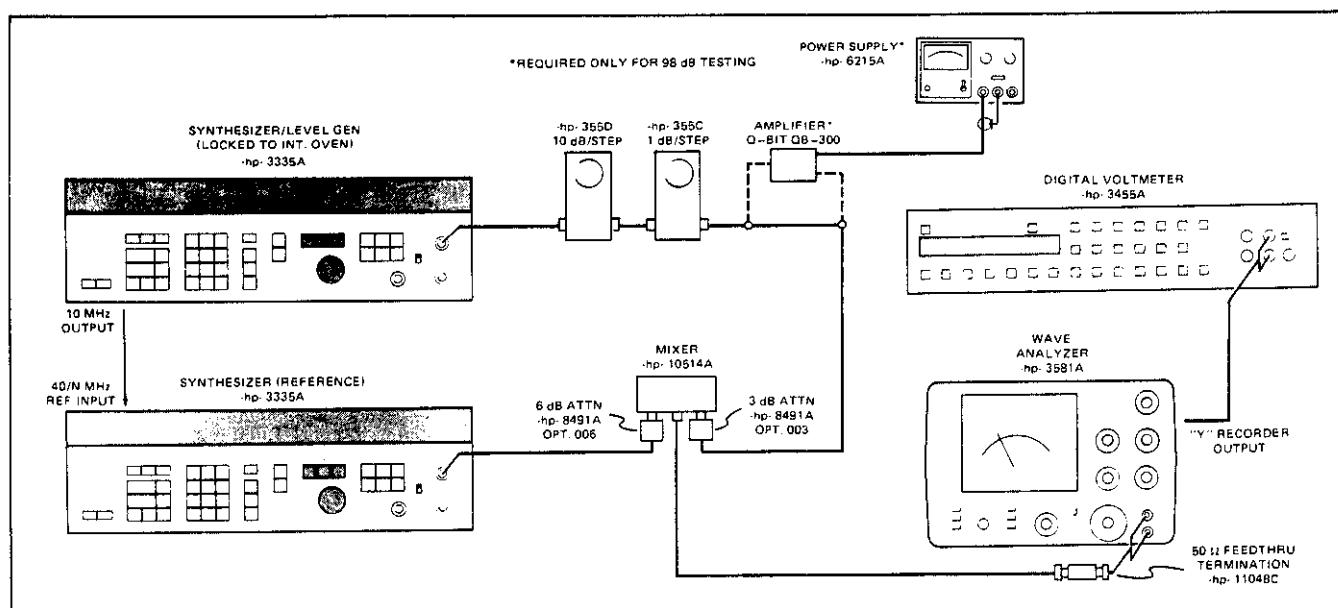
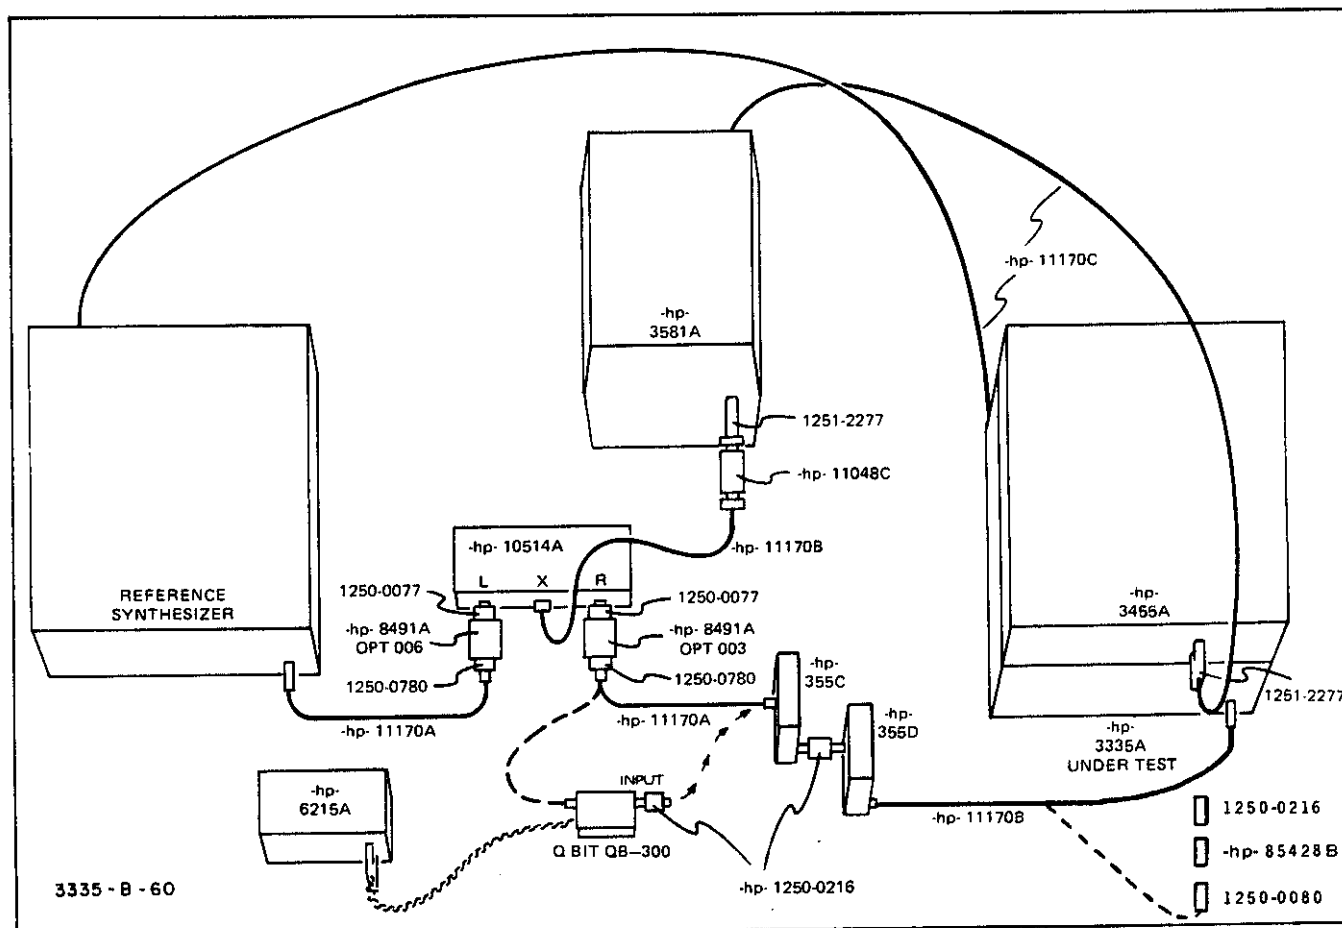

Figure 4-7. Attenuator Verification Test.
Figure 4-8. Attenuator Verification Test Equipment Layout (Top View).
(2) 11170C
a. Connect the test set-up as shown schematically in Figure 4-7 and by physical location as shown in Figure 4-8. If the 75 ohm output of the 3335A is being tested, an -hp- 85428B 50 ohm to 75 ohm minimum loss pad must be inserted between the 3335A under test and the connecting cable. Do not connect the amplifier into the test set-up at this time but connect the amplifier to the power supply and allow it to warm up prior to its use in Step q.
The test set-up is very critical to the test results. It is important that the specified cables be used and the equipment arranged as shown in Figure 4-8. Do not crossover cables of the test set-up. Failure to use the specified test set-up can result in erroneous data.